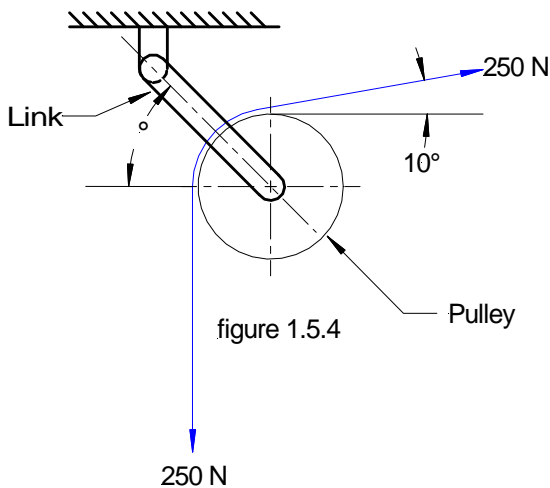

figure 1.5.4
- (d) Calculate The force in the link shown in *figure 1.5.4* and the angle it makes with the horizontal.